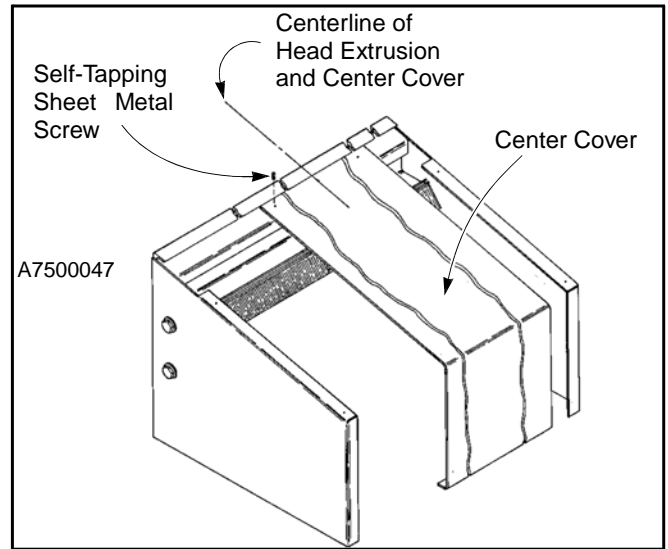

Figure 52
2. Attach the center hood cover section (one-piece hood) or the end hood cover sections (three- or four-piece hood) to the head extrusion. (See Figure 52.) Secure cover to extrusion and end panels using #12 x $\frac{3}{4}$ -in. self-tapping sheet metal screws.